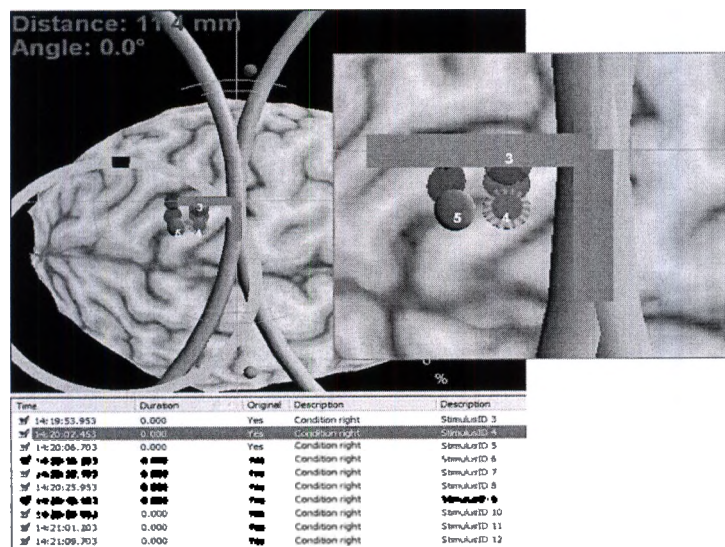

FIGURE 47: THE VIEW WHEN TARGETING AT THE HOT SPOT
- Select the task “Reproduce stimuli”. The “NeuroNavigation Targeting Stimulus” view will be displayed, as in Figure 47. Per default, you will see only those TMS Markers with a response exceeding the 75% of the maximal evoked response. The TMS Markers will be displayed together with a label, indicating their identification number.
- Select the TMS Marker you want to reproduce from the TMS Marker list, displayed in the bottom, as shown in Figure 47. The identification numbers of the TMS Markers are also displayed in the TMS Marker list. The selected TMS Marker will be highlighted, as shown in the enlargement of Figure 47. The targeting helper will assist you in reproducing the selected stimulus, as explained in Reproduce stimuli section.